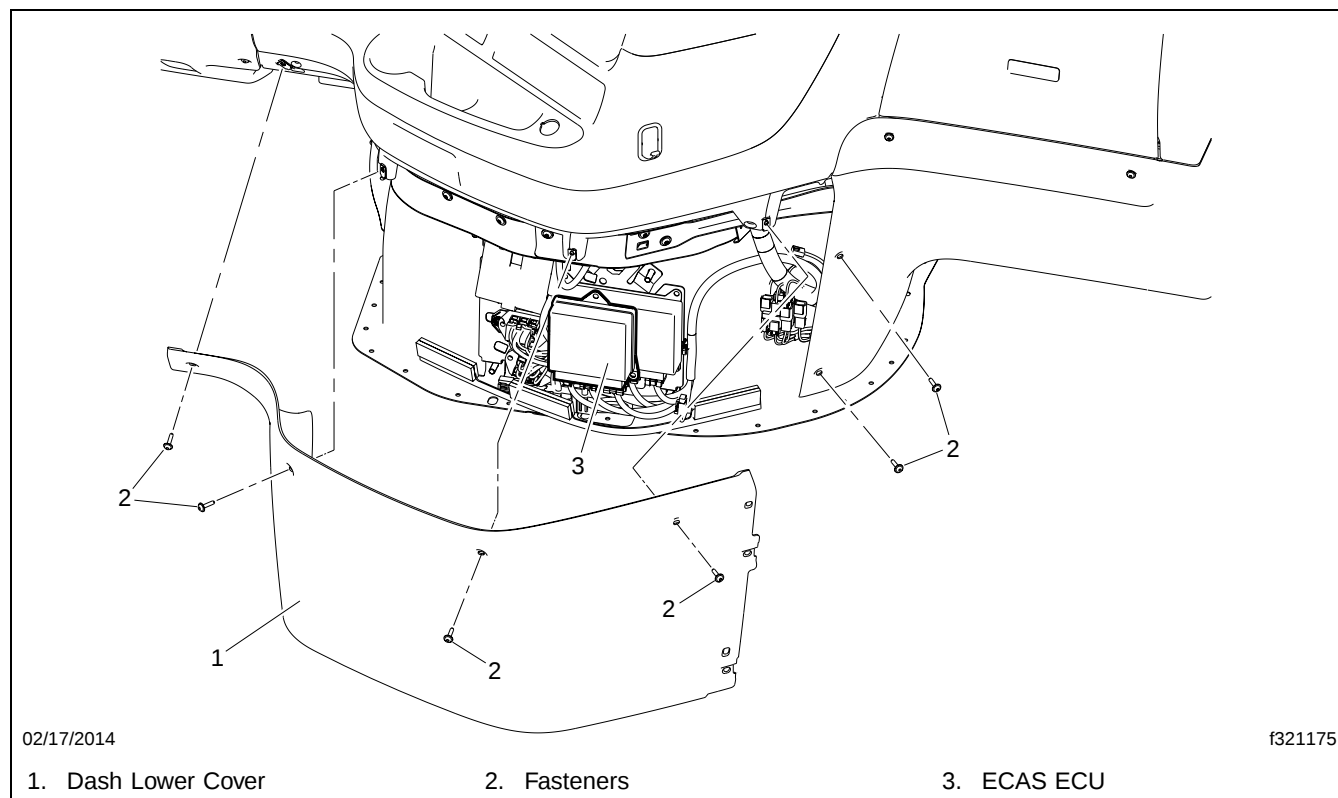

Fig. 1, Accessing the ECU
4. Remove the six fasteners that secure the dash lower cover. See **Fig. 1**.